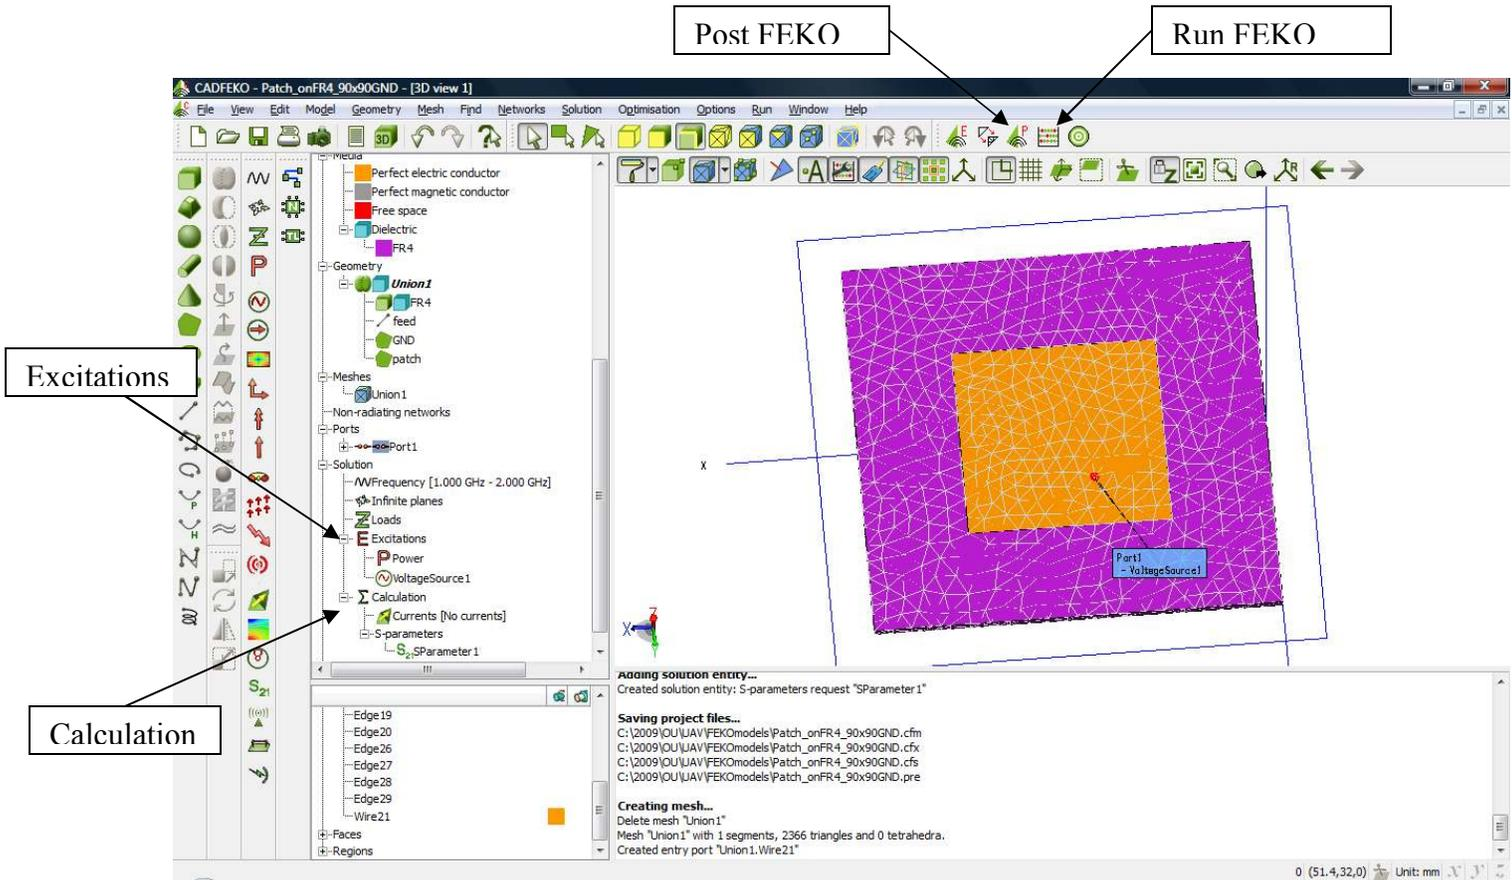

Figure 19.
23. Now you should have something that looks like Figure 19. Click on “Run FEKO” and wait for the simulation to finish\*.